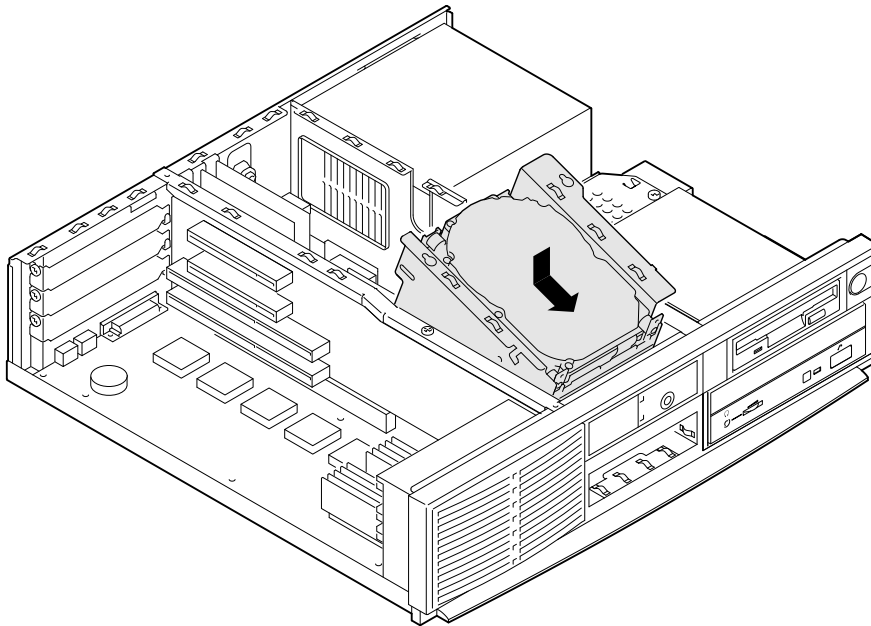

Figure 3-16. Mounting Drives and Installing Drive Bracket
6. Place the drive bracket into the system unit, as Figure 3-16 shows.